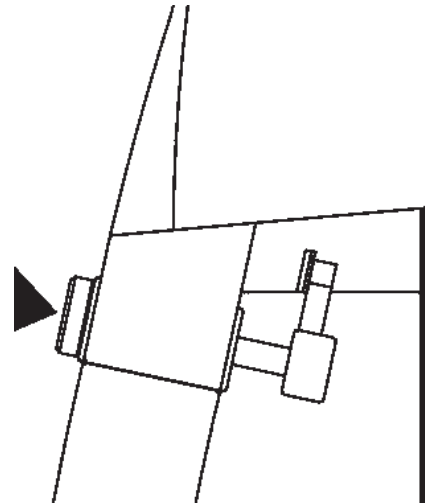

Figure 3.0-4
3. To lock: push the button firmly with the thumb (Fig.3.0-4).